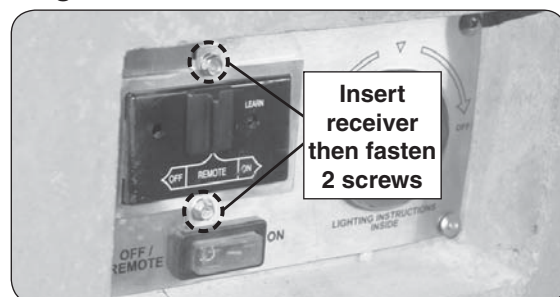

Fig. 27-4 Reinstall remote receiver assembly
8. Reinstall the remote receiver bracket assembly (see Fig. 27-4).